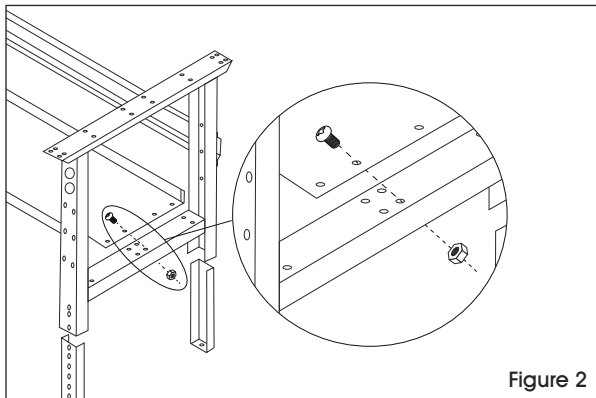

Figure 2
- Place lower shelves (4) across braces of legs. Attach lower shelves using eight nuts and bolts. Now, fully fasten hardware placed in step 3. (See Figure 2)
- To attach tabletop (5) to frame assembly, place tabletop on a smooth, non-marring surface with top side facing down.